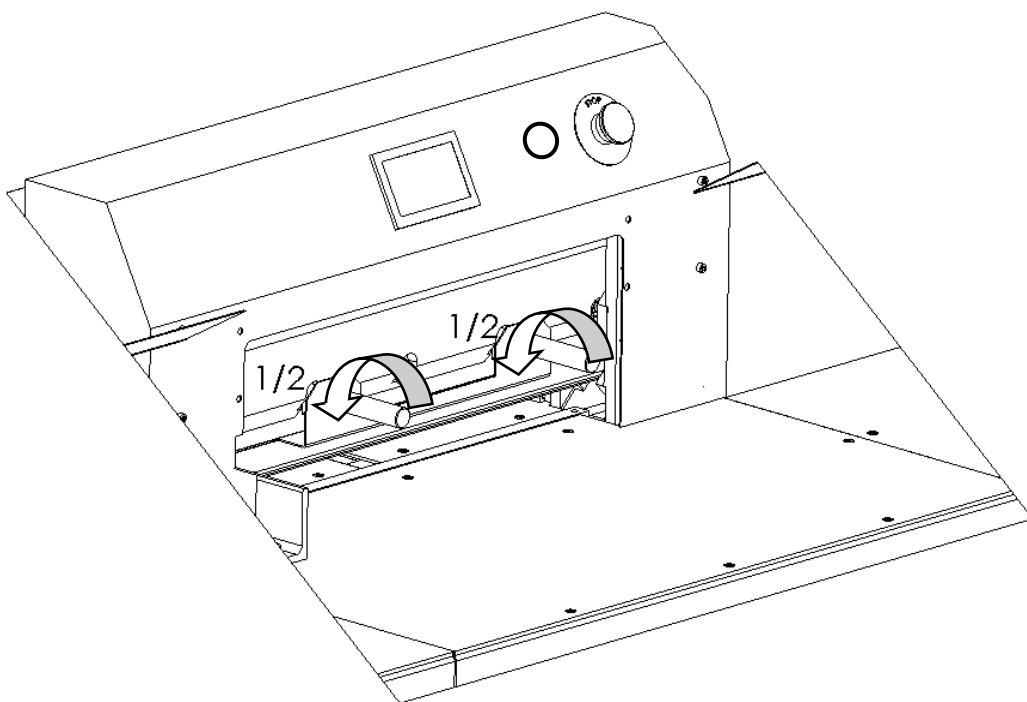
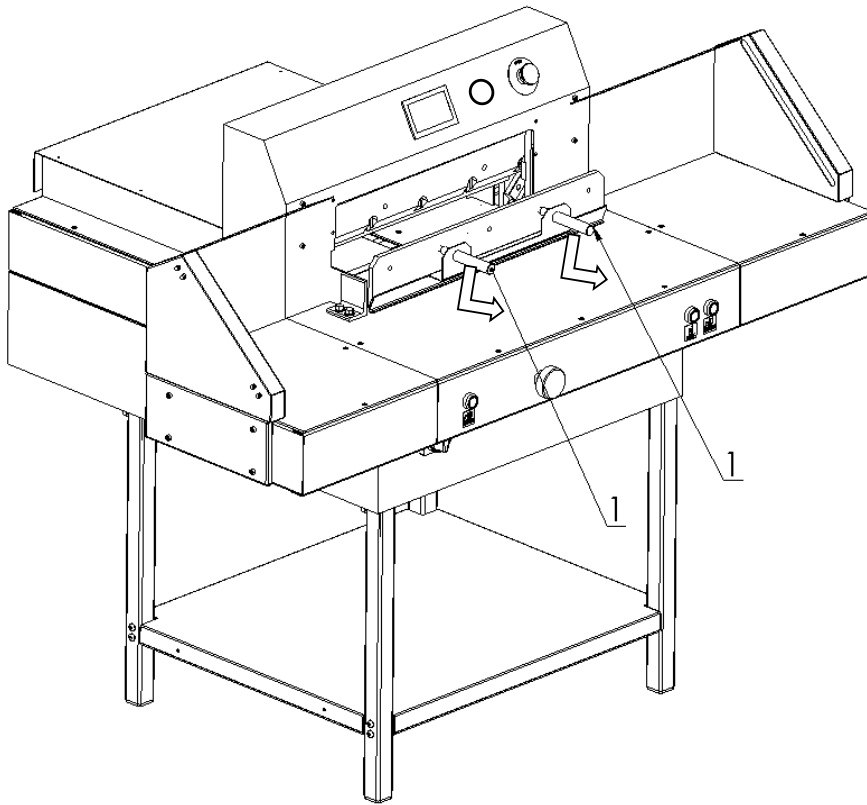
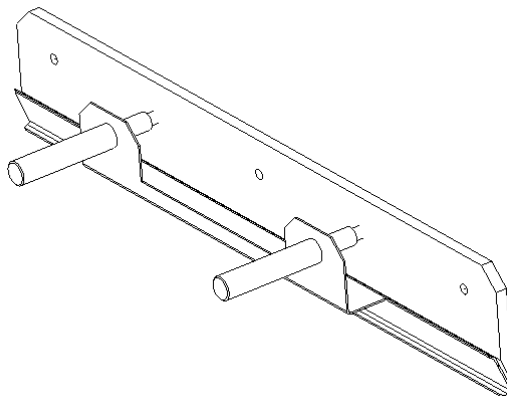

Figure 26.
Figure 27.
Figure. 28a. Knife in the transport handle
**8.1.1.12** holding the transport handles release the clamp by turning them 1/2 turn at a time to the left (fig 26) and carefully pull the knife down (fig 27). Take the removed knife into the special protective packaging (Fig. 28a - 28d.) With the blade inwards and fasten it with two screws. To unscrew the bolts fixing the blade knife, use the RWTg 8 wrench provided on the cutter.
**8.1.2.2.** Remove the knife from the packaging (Fig.28a - 28d)